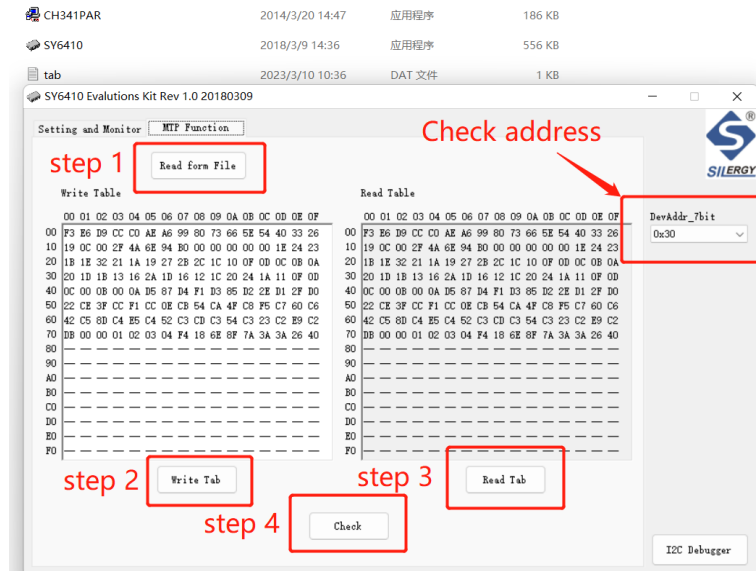

Figure 6 Steps for writing MTP
b. When writing MTP parameter, first check whether the address is `0x30` and then perform four steps: (1) **Read form File**; (2) **Write Tab**; (3) **Read Tab**; (4) **Check**. Note When writing MTP data, do not have working current. The steps for writing MTP parameters are shown in Figure 6: